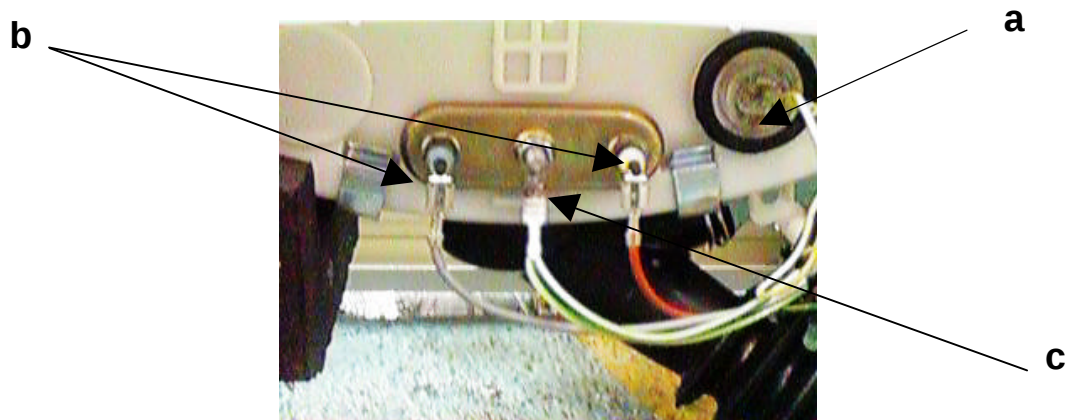

Figure : 17
- The screw that attaches the cable channel to the body is unscrewed. The strips on the cable channel are removed and the thermostat capillaries are disassembled. Thermostat bulb is taken off its housing (figure 17/a). On the tub.
- Heater cables are disconnected (figure 17/b)
- Heater M6 bolt is loosened and the heater is released through the tub cover (figure 17/c)
- Thermostat bulb rubber is pulled by hand from the tub cover (figure 17/a)
- Heater is removed (figure 17)
- Thermostat bulb is removed (figure 17/a)